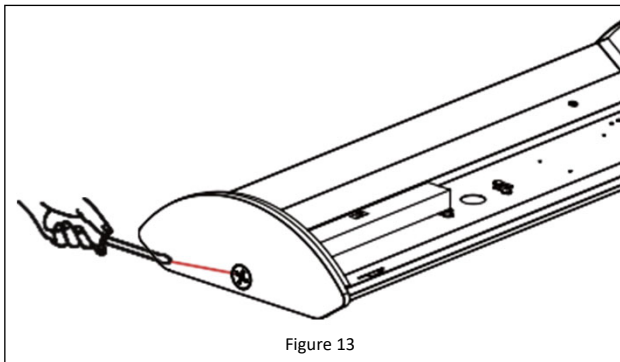

Figure 13
1. Remove the plug from the endcap closest to the LED driver. **See Figure 13.**